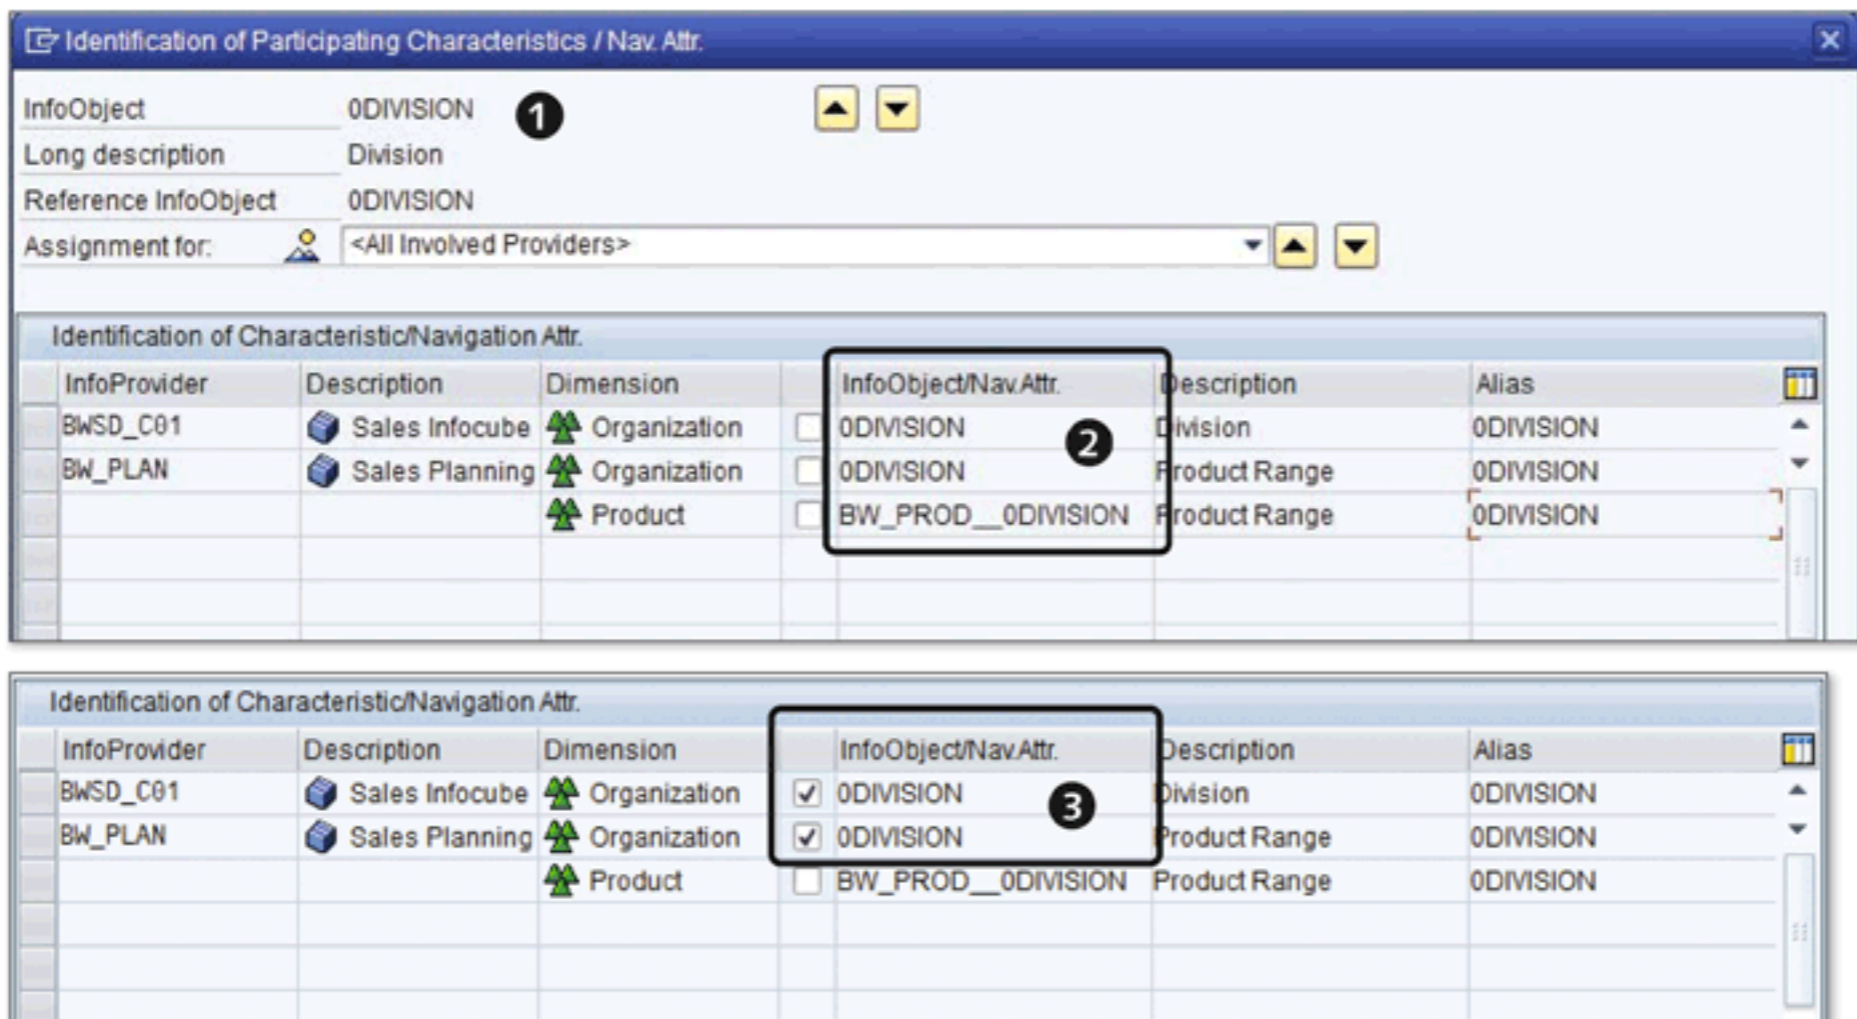

Figure 6.11 Edit MultiProvider: Identify Characteristics, Multiple Offered
Now let's discuss the options for including characteristics in a MultiProvider; for example, including characteristic 0DIVISION (see ❶ of Figure 6.11). 0DIVISION from the SALES INFOCUBE can be matched with 0DIVISION and BW_PROD_0DIVISION (0DIVISION is the navigation attribute of BW_PROD) from the SALES PLANNING CUBE (❷). You need to decide whether you want to match the 0DIVISION characteristics of InfoCube BWSD_C01 with the 0DIVISION characteristics of InfoCube BW_PLAN, or with the 0DIVISION navigation attribute of BW_PROD. Select 0DIVISION characteristics from both of the InfoCubes (❸).